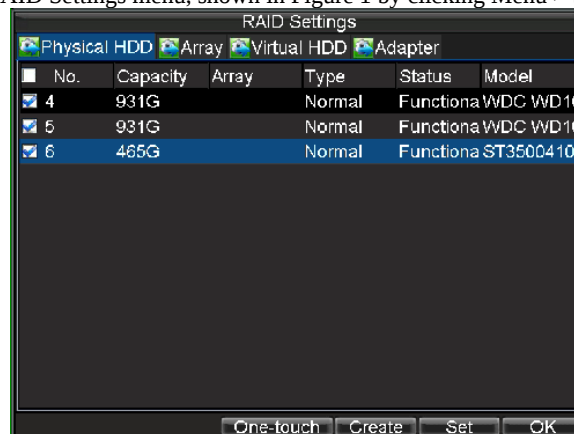

Figure 1. RAID Settings Menu
1. Enter the RAID Settings menu, shown in Figure 1 by clicking Menu > Settings > RAID.